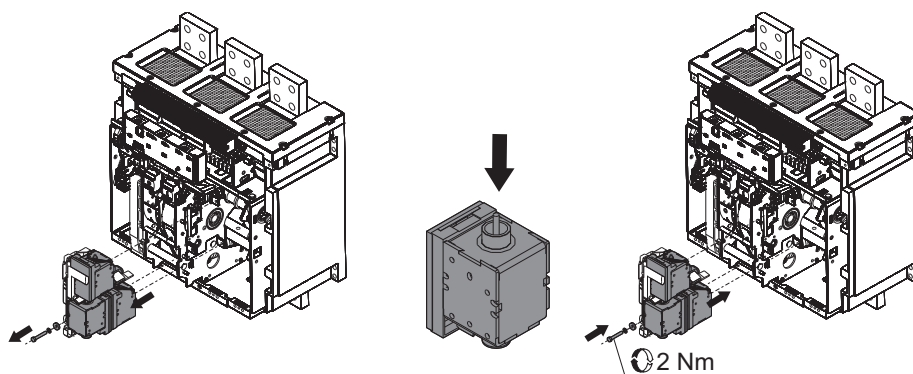

Fig. 28
- Make sure that the releases (YO, YU, YC) are in good conditions (absence of excessive wear, overheating, breakages) Fig. 28.